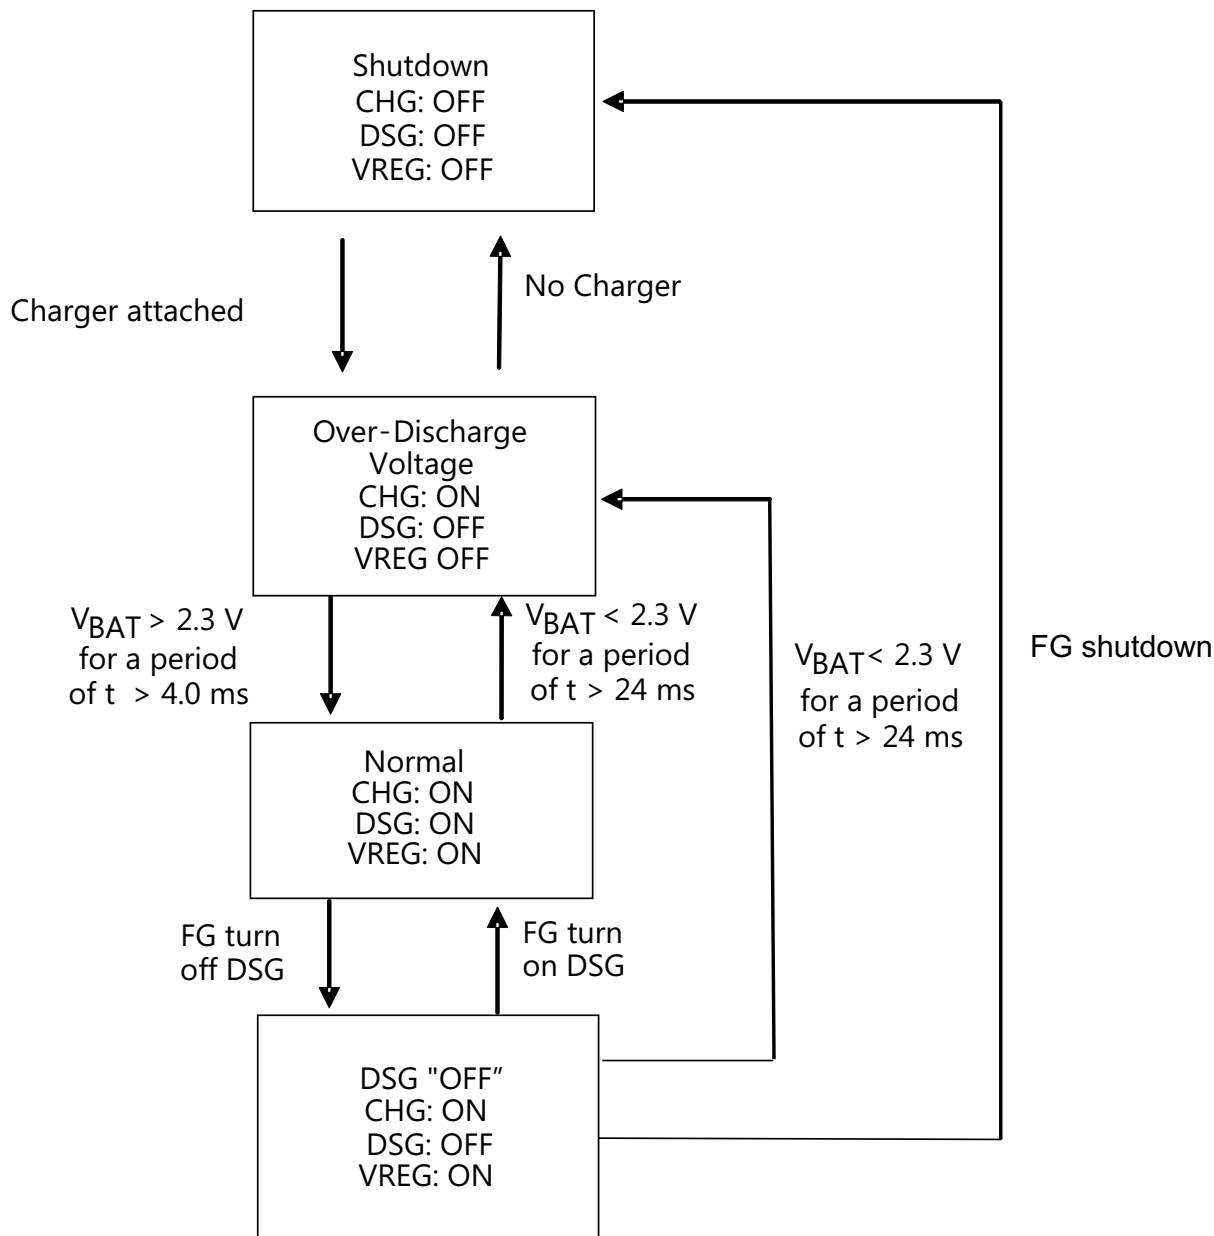

Figure 4. Shutdown Operation
**Figure 4** shows an overview of the hardware controlled SHUTDOWN operation.